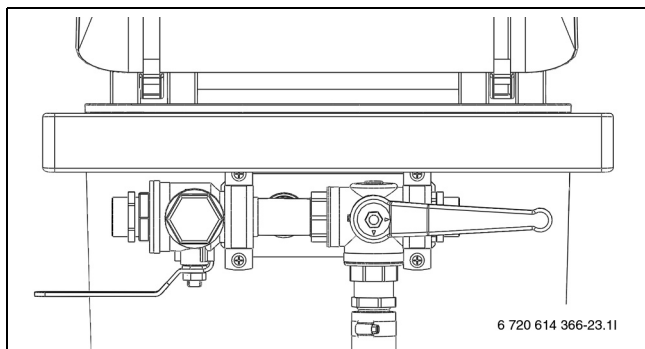

Fig. 38 Filling unit in filling position
- ▶ Turn the valves on the filling station to filling position and fill the circuit with collector circuit fluid (→ Figure 38).